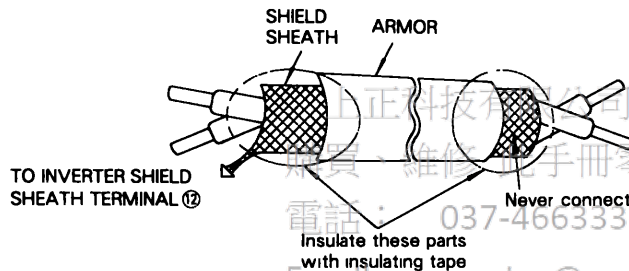

Fig. 6 Shielded Lead Termination
Use the twisted shielded or twisted-pair shielded lead for the control circuit line and connect the shield sheath to the inverter terminal ⑫. See Fig. 6.